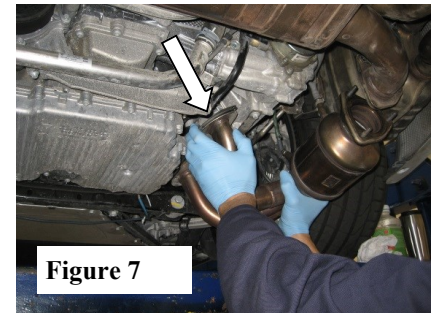

Figure 7
7. Remove R/H & L/H manifolds and tie them up with string or cable ties to avoid damage to wiring. (See Fig. 7)